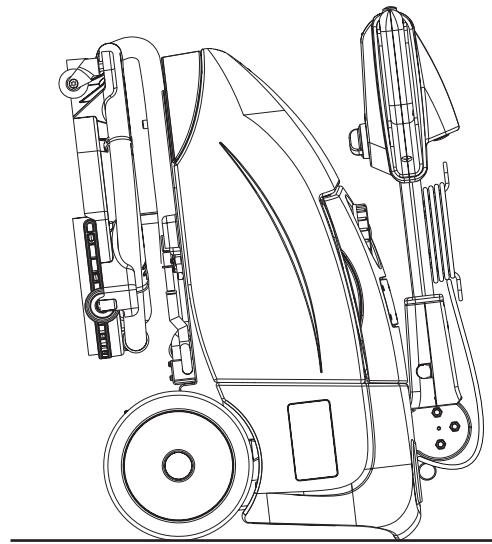

Figure 5
3. To safeguard the brush or squeegee blades, bend the handlebar (2) forward and park the machine as shown in figure 5.